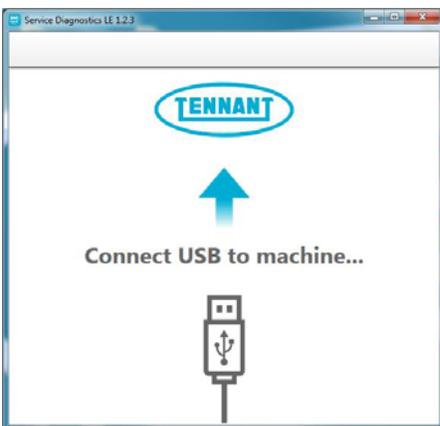

Fig. 26
2. After start up, the following screen will appear (Figure 26).